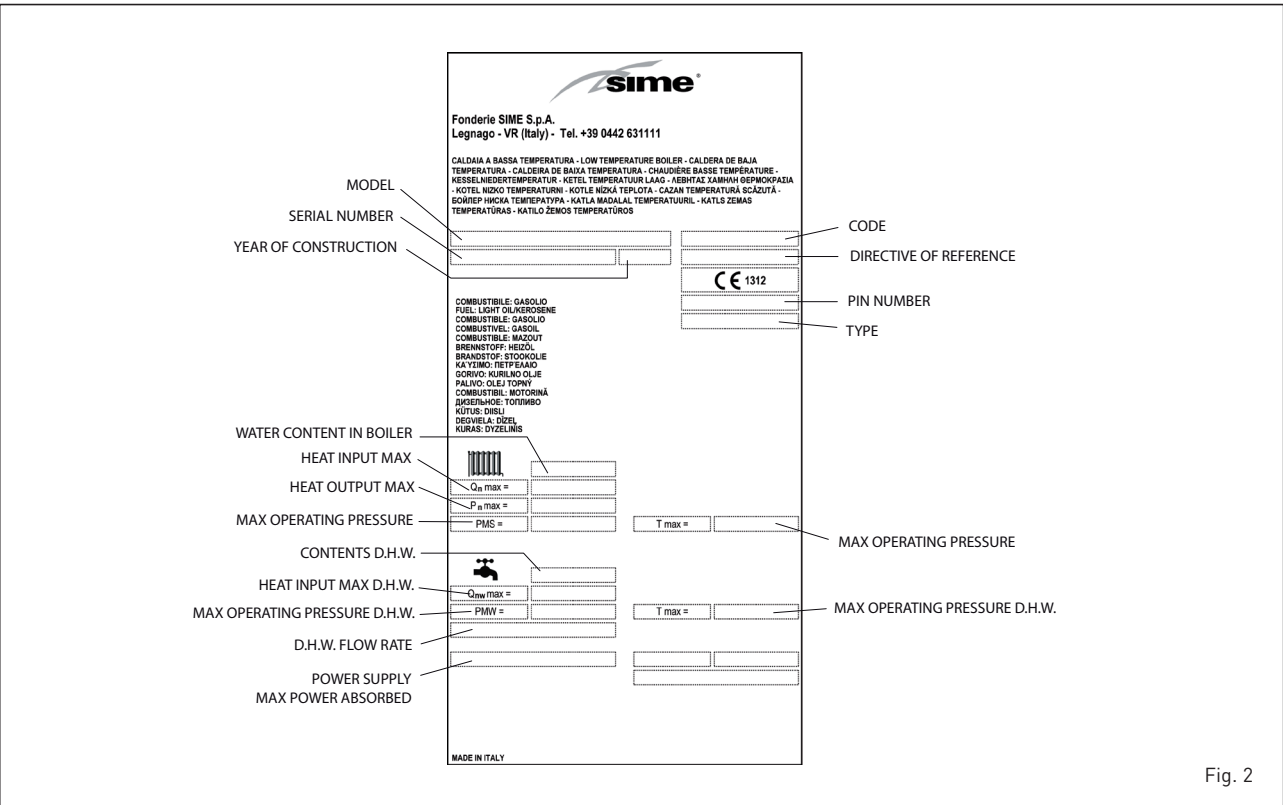

Fig. 2
1.2.1 Technical data plate (fig. 2)